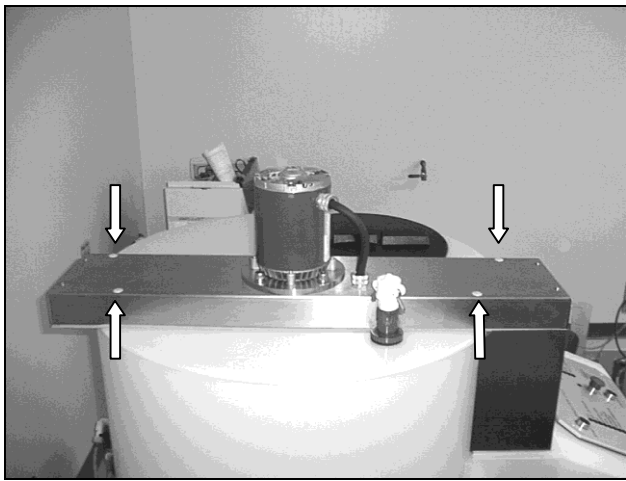

Figure 12. Location of the nylon-plugs. Underneath the nylon-plugs are the Philips-head screws that must be removed.
3. To remove end-cover and end-plate from the top-cover assembly, remove the four ½ inch nylon-plugs from the top-cover assembly and unscrew all four screws. (See Figure 12) Lift and twist Mixer Motor and top-cover assembly to allow room to install new Final Fill Sensor. (See Figure 13)